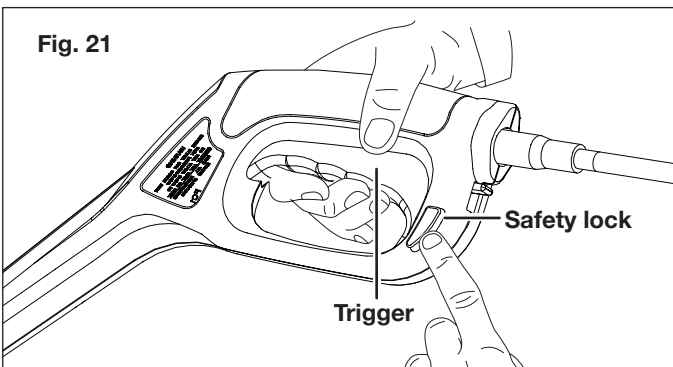

Fig. 21
9. Push the safety lock on the spray gun handle, then press the trigger for a few seconds until the water flow is steady. Operating the pressure washer in this manner will allow air to escape and discharge residual pressure in the hose (Fig. 21).